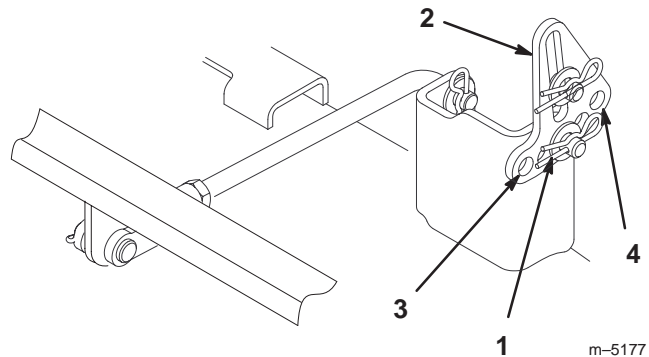

Figure 38
5. Remove the hairpin cotter and washer from the leveling bracket (Fig. 38). To level the blade(s), reposition the leveling bracket(s) in a different hole and install the washer and hairpin cotter. (Fig. 38). A front hole lowers the blade height and a rear hole raises its height. Adjust both sides as required.